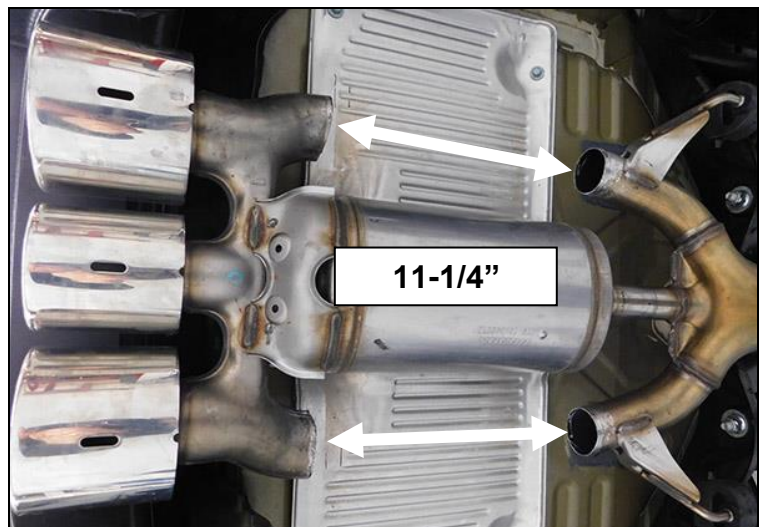

Figure 2
2. Cut the pipe at the marks as straight as possible. Be sure not to remove any more than 11-1/4" of material including the mufflers and taking into account the material the saw blade will remove. The delete pipes are pre-cut to 11-5/8" total length and will slip into and over the OEM exhaust pipe with a small amount of overlap on each side to make welding easy. Cutting the space over 11-1/4" will result in the delete pipes being too short (**Figure 2**).